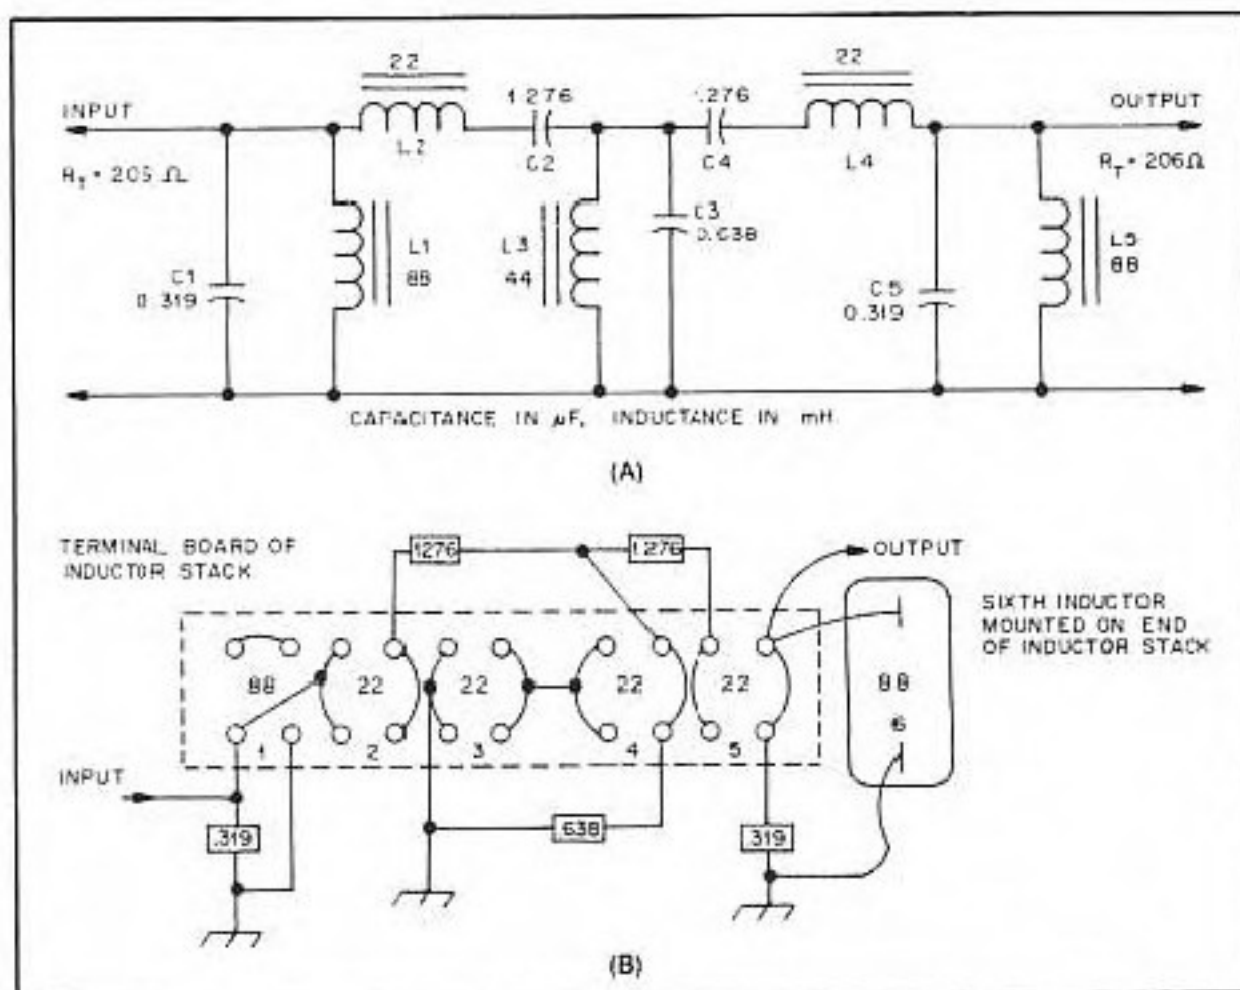
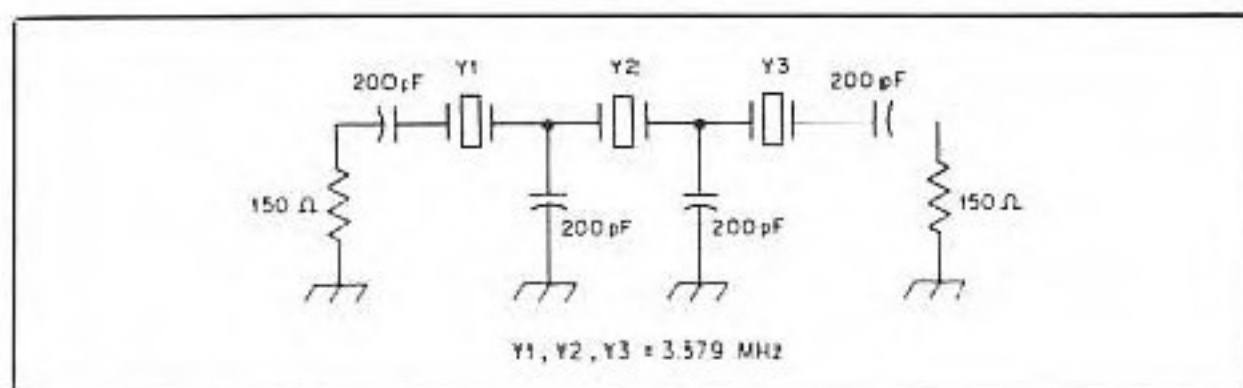
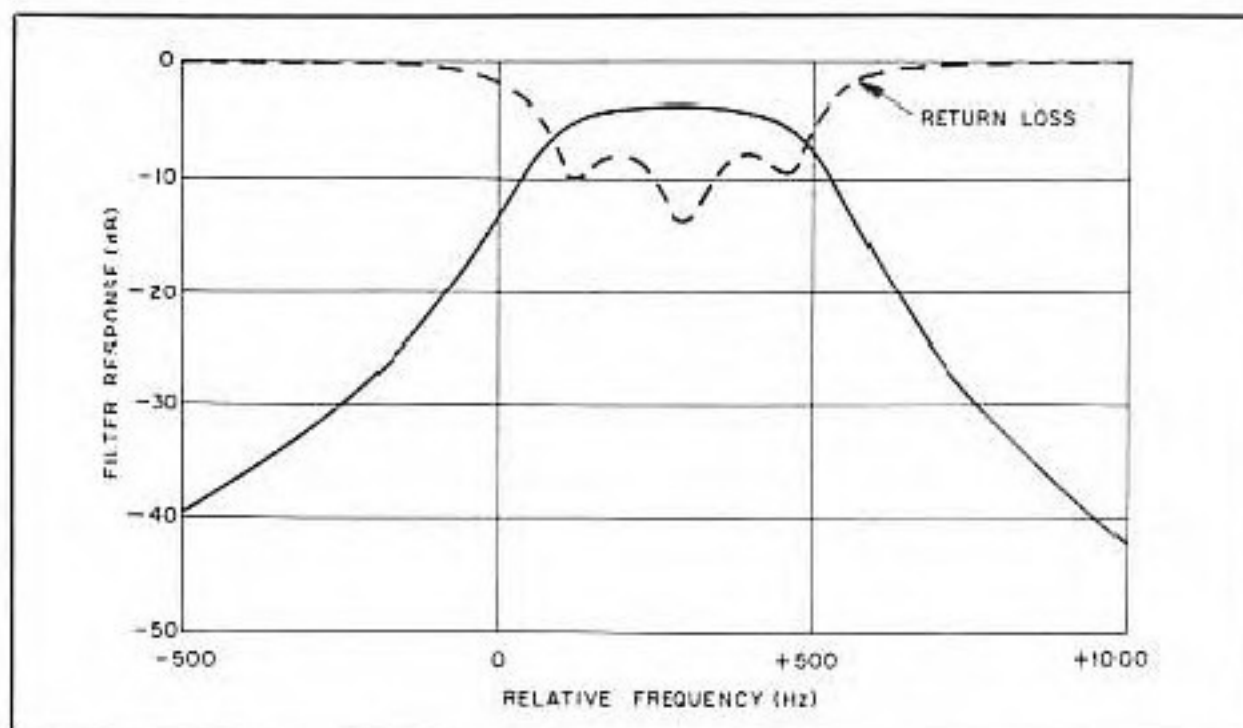

Fig 4—Schematic diagram of the SSB band-pass filter (A). Shown in B is a pictorial wiring diagram of the terminal board on the inductor stack.
Fig 2—A simple CW filter using three crystals.
Fig 3—Frequency response of the filter of Fig 2. The dots show the input return loss, indicating the quality of the impedance match.
Fig 3—The assembled filter is shown installed in a CR-800 aluminum box. The thru/bypass switch (S1) and input/output transformers (T1, T2) are at the left end of the box.
4) Obtain a suitable box and make holes for the inductor mounting clip, the DPDT switch, and the phone jack and phone cord. First, install matching transformers T1 and T2 and the inductor stack with capacitors. Fasten the transformers (with leads pointing up) to the bottom of the box with silicone rubber sealant. Secure the stack to the bottom of the box with a 1-3/8-inch component mounting clip and two no. 6-32 \times 5/16-inch screws. Instead of the 8 \times 3 \times 2 1/4-inch aluminum box shown in Fig 3 (Mouser Stock No. 537-CR-800), a small cardboard box may be used to minimize cost.
While audio filters are most often used during CW reception, the SSB operator can also benefit from their use. Shown in Figs 4 and 5 is a passive band-pass filter designed by Ed Wetherhold, W3NQN, for phone operation. This filter was described in Dec. 1979 *QST*.
A simple and practical filter for a beginner's first CW superheterodyne receiver is shown in Fig 2. Three crystals are used. The capacitors are 200-pF units, a standard value. Experimentation (done here with the computer) shows that a good filter shape is obtained with an end termination of 150 ohms. Fig 3 shows the frequency response of this filter. The -3 dB bandwidth is 403 Hz, and the insertion loss is 3.8 dB. The loss will be lower with better (higher Q) crystals. The impedance match is shown in the figure as a series of dots. This is the return loss normalized to the source impedance—150 ohms for the filter shown.
Fig 4 illustrates the effect of altering the terminating resistance. Fig 4A shows the result of 75-ohm terminations, lower than the desired 150-ohm value. The filter shows some passband ripple and a higher insertion loss. The effect of a 300-ohm termination is shown in Fig 4B, where the peak shape becomes more rounded, with degradation of skirt response. While the poorer frequency domain shape is generally less desirable, the filter with the higher termination has a significantly improved group delay; this filter would be preferred for high-speed data applications.
Fig 4—Frequency response of the filter of Fig 2 with changes in the end terminations. Curve A shows response with 150-ohm terminations; curve B shows the response using 300-ohm resistors. See the text for considerations of which is "better"